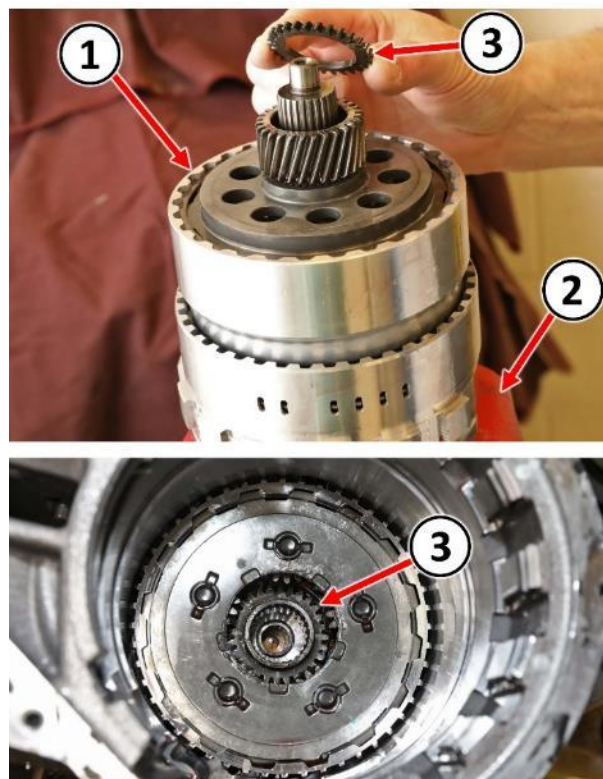

**Figure 31 – Compounder Assembly**
44. Secure the Puller Adapter 9908 into a vise (2) to hold the underdrive compounder assembly (1) during disassembly (Figure 31).
45. If the thin sun gear (3) came out of the transmission attached to the underdrive compounder assembly (1) then place it back in its proper position within the transmission (Figure 31).